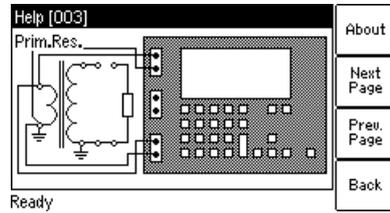

Figure 7-13 CT Analyzer help page for primary winding resistance measurement
4. Press the **?** key to open the help page showing the connection diagram and connect the CT to the *CT Analyzer* as shown in Figure 7-13 using the 4-wire method.